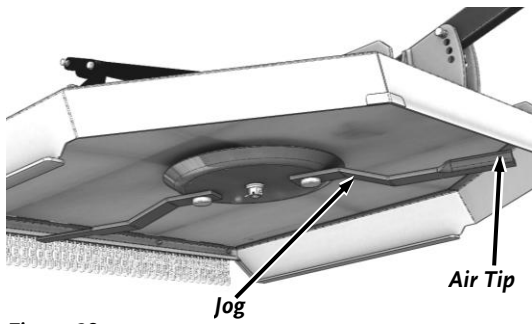

Figure 29
**Note:** The Blade should be installed with the Jog pointed down and the Air Tip pointed up (**Figure 29**).